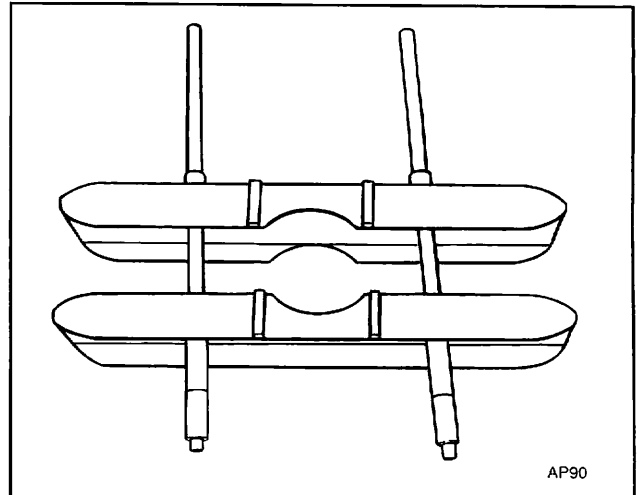

Figure 4. Beam Clamps
- \*Steel beam clamps. See Figure 4.